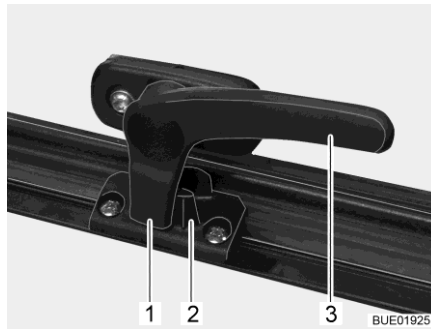

Fig. 14 Catch lever in "closed" position
- Turn the catch lever (Fig. 14,3) a quarter turn towards the centre of the window.
- Turn the catch lever (Fig. 14,3) a quarter turn towards the window frame. The locking catch (Fig. 14,1) is located on the inside of the window catch (Fig. 14,2).
- "Firmly closed" (Fig. 14).